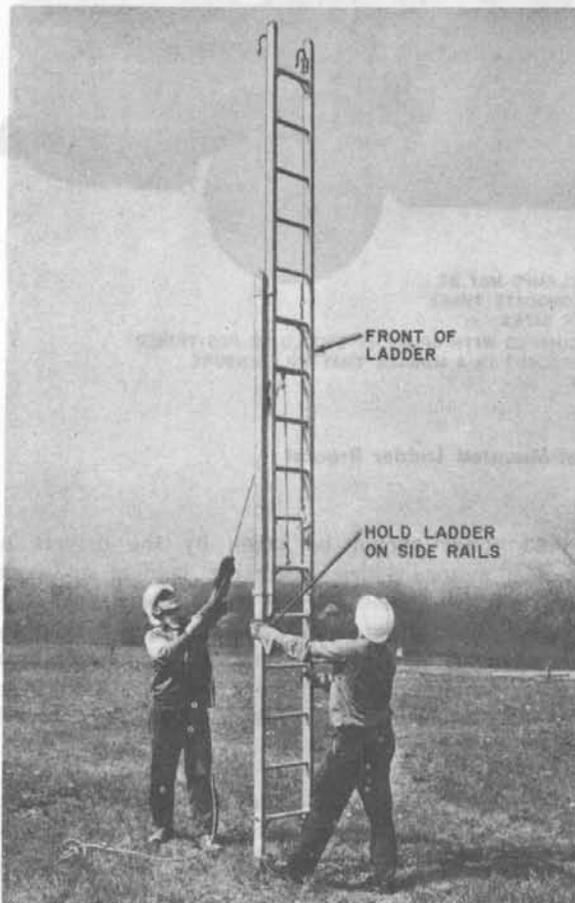

Fig. 30—Two-Man Method of Extending Top Section
8.10 One craftsman shall hold the side rails of the lower section on the front side of the ladder during the raising and lowering of the upper section by another craftsman. Exercise care to prevent the ladder guide irons from striking and injuring the hands of the craftsman holding the side rails. The positions to be taken by the craftsmen are shown in Fig. 30. The ladder is raised by the second craftsman as outlined in 8.05.